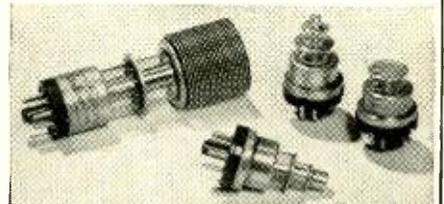

Fig. 2.
Fig. 2. (A) Modified a.c. bridge circuit. The a.c. input may be 60 cycles from power line or a higher frequency from an oscillator. One of the potentiometers is used for the reference voltage and the other for signal voltage. (B) Basic a.c. bridge circuit. The a.c. supply should not be grounded. If low impedance circuits are used, the relay may be operated directly from the output of the rectifier.
- Fig. 2 is a photograph of (a) reflex klystrons (b) lighthouse tubes (c) electron multiplier tubes (d) magnetrons.